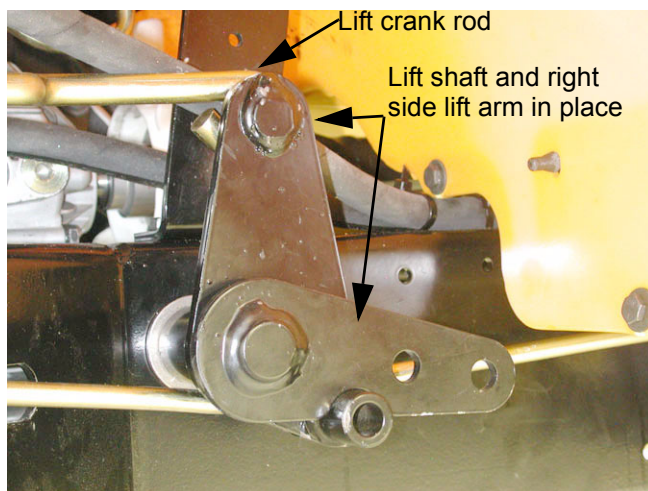

Figure 2.3
- 2.3. Install the lift shaft in the frame, through the Double-D bushing. Hook the front eyelet on the lift crank rod over the solid post on the right side lift arm. See Figure 2.3.